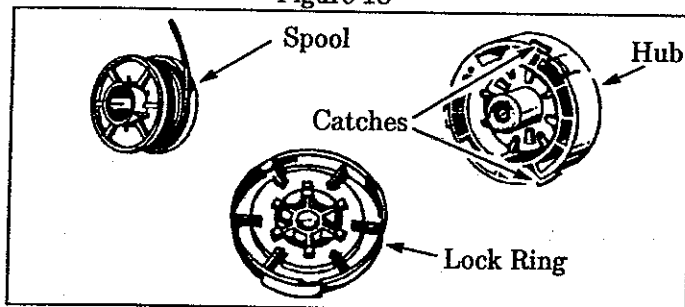

Figure 19
- b. Remove the Lock Ring and Spool. Figure 19.
- g. Check to make sure all three Catches (Figure 19) and the Lock Tab (Figure 20) are properly fastened as shown in Figure 21. Then test the Lock Ring by trying to turn it counterclockwise.